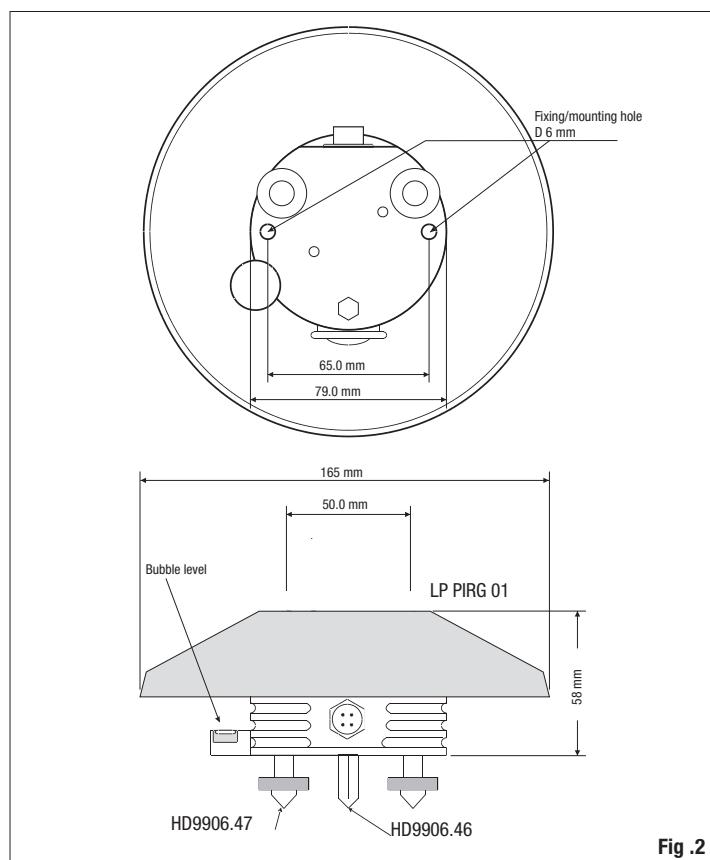

Fig. 2
- For an accurate horizontal positioning, the pyrgeometer LP PIRG 01 is equipped with a spirit level, which adjustment is by two screws with lock nut that allows changing the pyrgeometer inclination. The fixing on a flat base can be performed by using two 6mm diam. holes and 65 mm wheelbase. In order to access the holes, remove the screen and re-place it back after mounting, see figure 2.